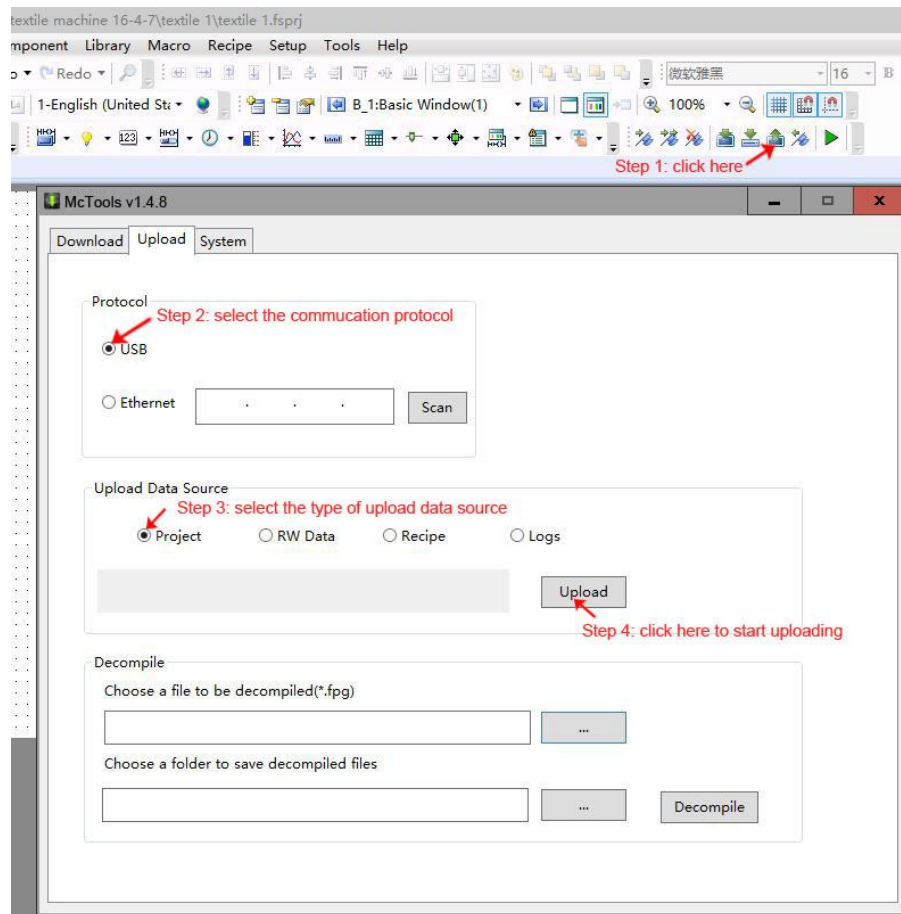

Fig. 20
① Click the “Upload” icon on the tool bar, set the communication mode, select to upload the project, and start to upload the project, as shown in Fig. 20.